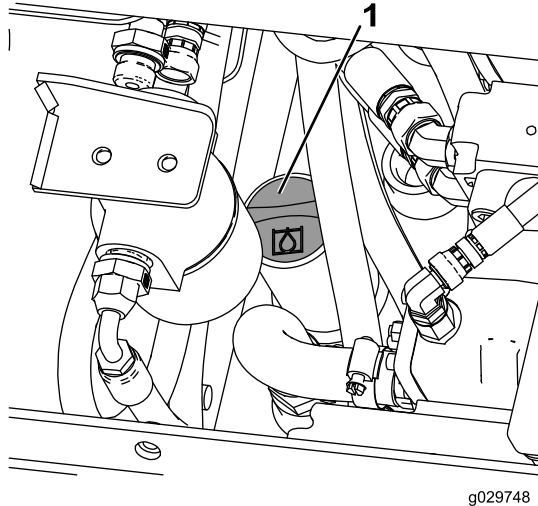

Figure 70
7. Clean the area around the filler neck of the hydraulic tank (Figure 70).